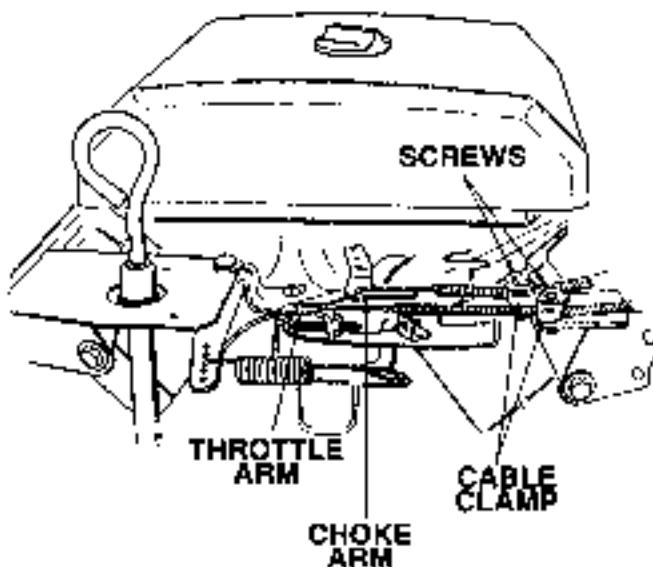

Figure 5-42. Engine Control Cables
4. Disconnect the throttle and choke cables from the engine by removing the screws and cable clamps (Fig. 5-42) securing the cables to the engine